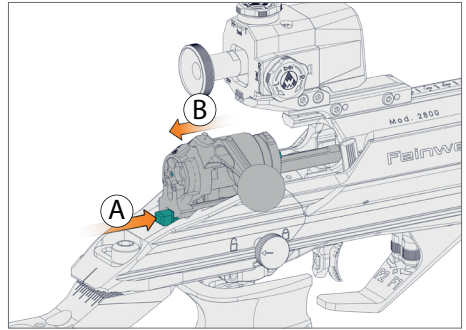

Fig. 7
- Press and hold the slider (Step A, see Fig. 7).
- Remove the bolt assembly. (Step B, see Fig. 7).